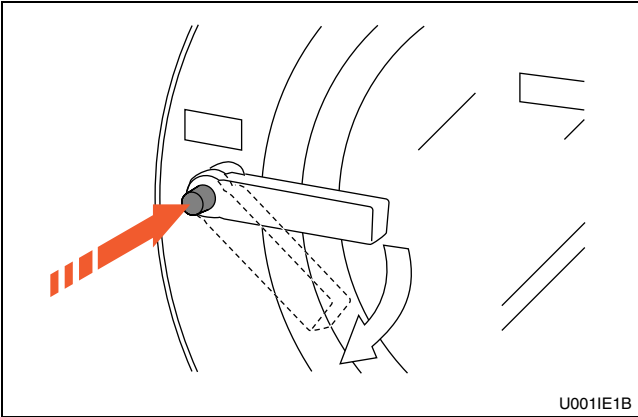

Figure 16
- 2. Push button and turn handle clockwise to open. Refer to *Figure 16*.